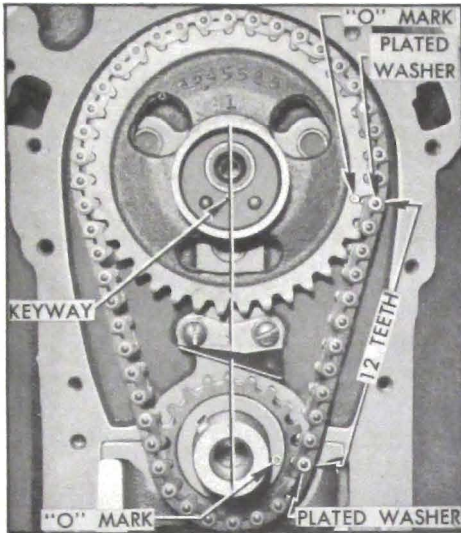

Figure 2-25—Timing Chain and Sprockets Properly Installed
4. If there has been doubt about the valve timing, turn crankshaft until the camshaft sprocket keyway is straight down toward the crankshaft and the "0" timing marks on both sprockets are toward left side of engine. If timing chain is installed to provide correct valve timing, there will be 12 teeth between the "0" timing marks, including teeth aligned with the marks. See figure 2-25.
7. When ready to install timing chain, turn crankshaft until Nos. 1 and 4 pistons are on top dead center. Turn camshaft so that the sprocket key points straight down toward crankshaft. See figure 2-25.
8. Place timing chain over the camshaft and crankshaft sprockets so that the copper plated washers on chain are aligned with the "0" marks stamped on front faces of sprockets, then install sprockets with chain on the two shafts. See figure 2-25.